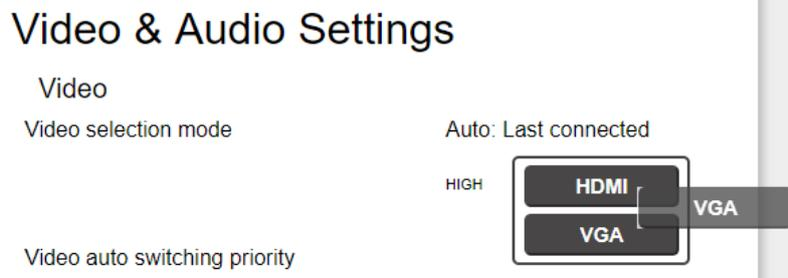

Figure 19: Dragging input to change priority
3. Drag and drop the inputs to set which inputs get higher priority (Figure 19).